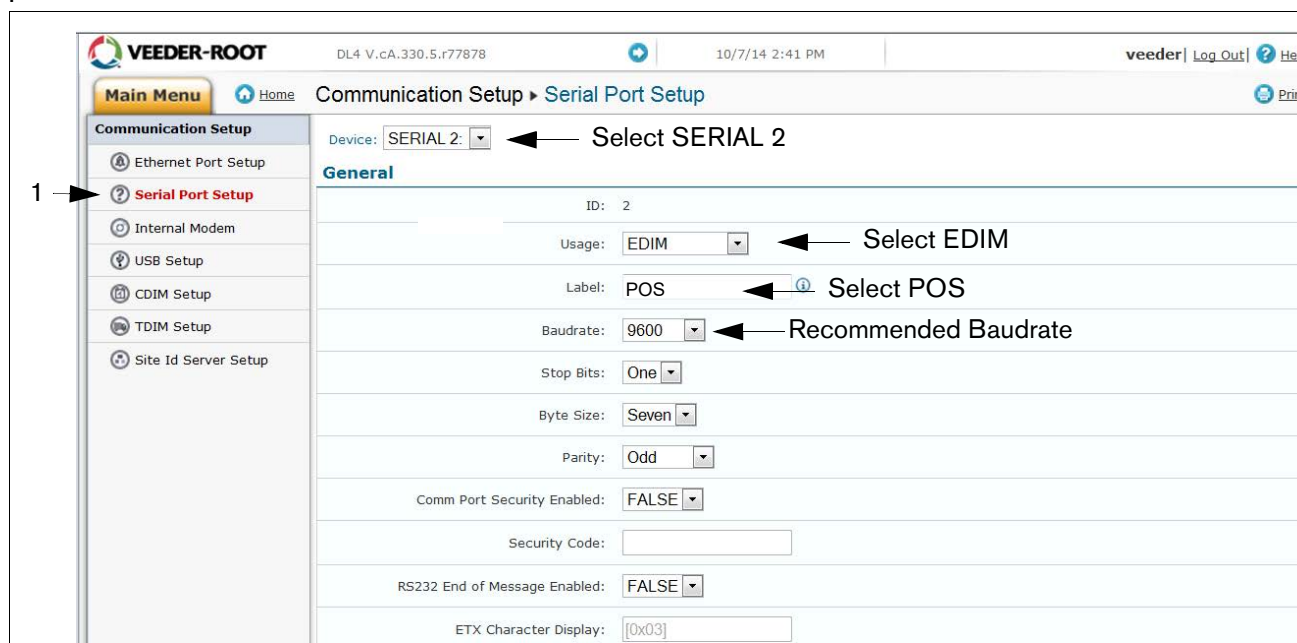

Figure B-5. Serial Port Setup, SERIAL 2-POS
8. Click on “Serial Port Setup” (1) and in the “Device” field, select “SERIAL 2:”. Use this connection for the connection to the POS, and enter “POS” for the Label. Set the correct communications parameters for the POS using the drop down menus. Click the “Save” button to keep these settings (see example in Figure B-5).